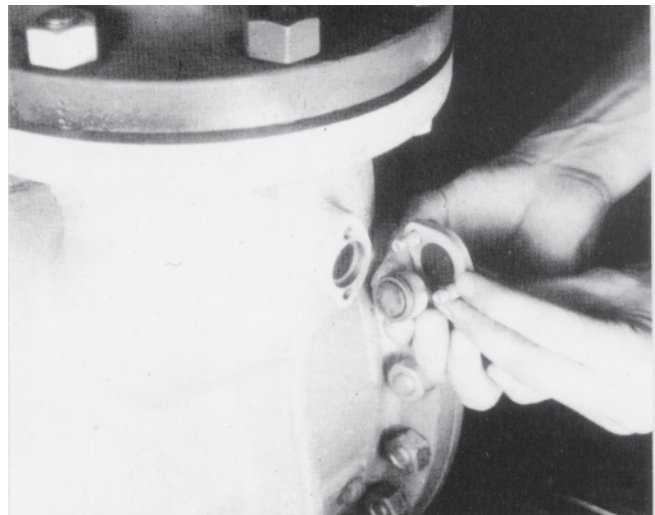

Figure 4 – Removing Temperature Well Plug
- Remove these parts to install the bulb of a temperature compensation system, Figure 4.